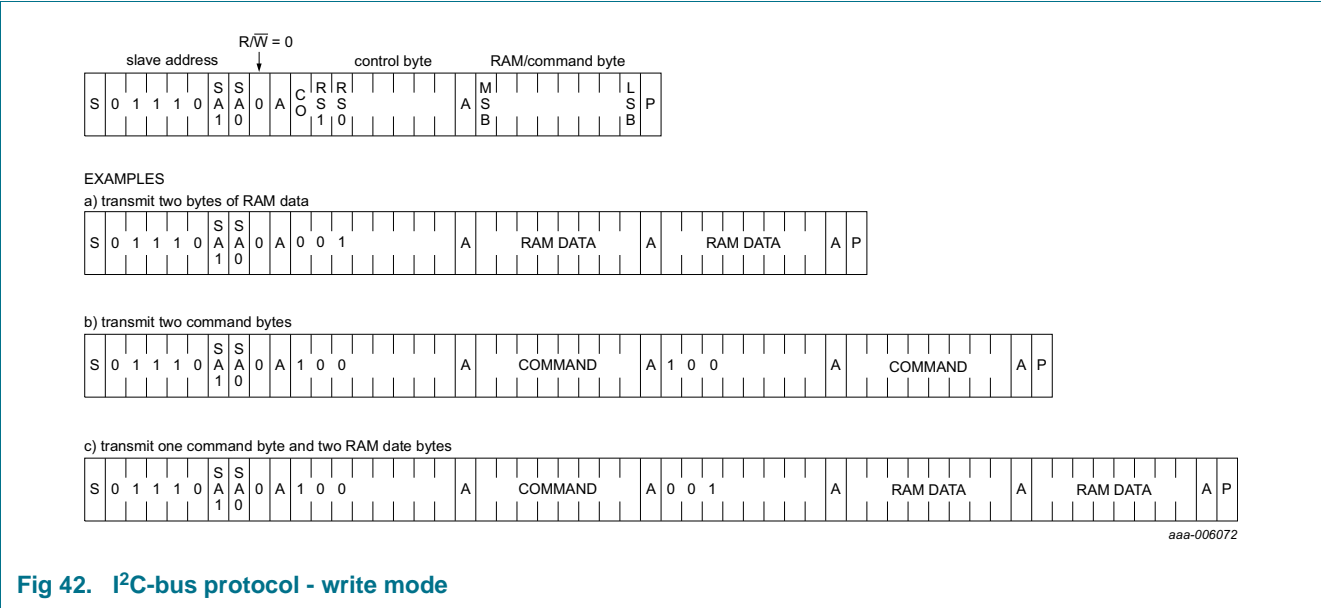

Fig 42. I²C-bus protocol - write mode
The I²C-bus protocol is shown in Figure 42. The sequence is initiated with a START condition (S) from the I²C-bus master which is followed by one of the four PCA8538 slave addresses available. All PCA8538 with the corresponding SA1 and SA0 level acknowledge in parallel to the slave address, but all PCA8538 with the alternative SA1 and SA0 levels ignore the whole I²C-bus transfer.